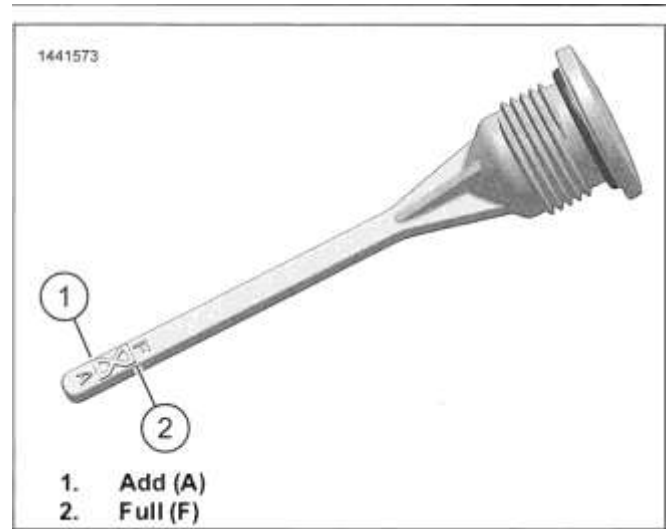

Figure 2-10. Transmission Lubricant Level
4. See Figure 2-10. Remove filler plug/dipstick. Check lubricant level on dipstick. Proper oil level is between the Add (A) (1) and Full (F) (2) marks.
6. Check lubricant level. Add enough lubricant to bring the level between the add (A) and full (F) marks. See Figure 2-10.